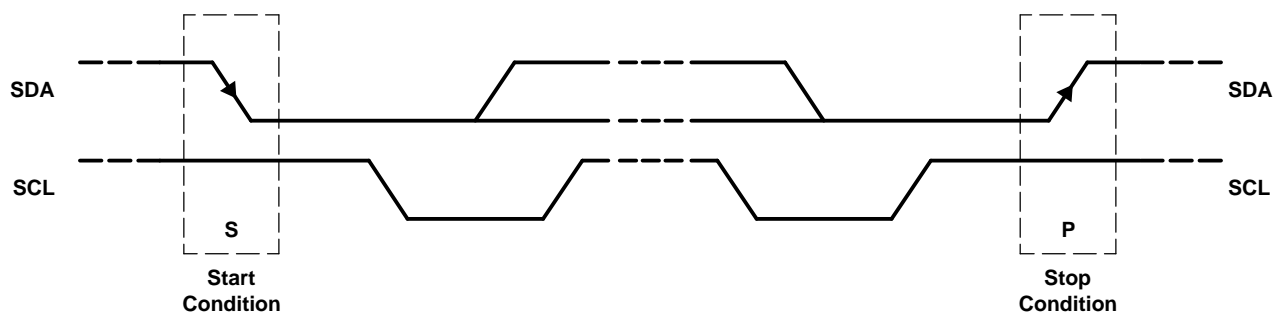

Figure 47. START and STOP Conditions
- The *master* initiates data transfer by generating a *start condition*. The *start condition* is when a high-to-low transition occurs on the SDA line while SCL is high, as shown in Figure 47. All I2C-compatible devices should recognize a *start condition*.
- To signal the end of the data transfer, the master generates a *stop condition* by pulling the SDA line from low to high while the SCL line is high (see Figure 47). This releases the bus and stops the communication link with the addressed slave. All I2C compatible devices must recognize the stop condition. Upon the receipt of a *stop condition*, all devices know that the bus is released, and they wait for a *start condition* followed by a matching address.